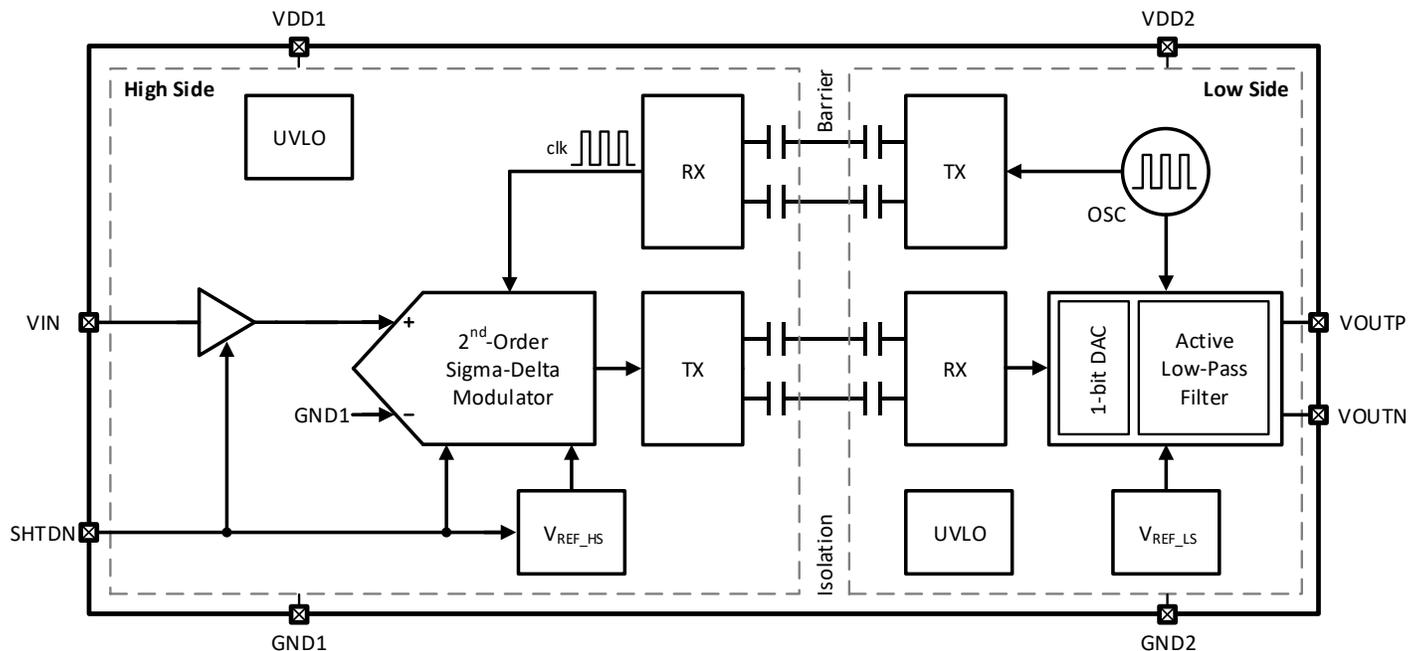

Figure 9-1 Functional Block Diagram of CA-IS1311
The CA-IS1311 devices are high-precision reinforced isolated amplifiers designed for voltage sensing. The functional block diagram of this device is shown in Figure 9-1. At high side, the high input-impedance buffer drives a 2nd-order Sigma-Delta ( $\Sigma\Delta$ ) modulator. This modulator converts the analog signal to a digital bitstream. For transmission across the SiO2-based isolation barrier, the digital stream is further modulated with a high-frequency carrier using a simple on-off keying (OOK) modulation scheme. The receiver (RX) recovers the modulated signal to the original digital bitstream at low side. After processed by a 1-bit digital-to-analog converter (DAC), the digital bitstream is sent to an active low-pass filter to produce the analog output. For synchronization of the whole chip, the clock is generated at low side and sent back to high side ensuring that all clocks come from one source.